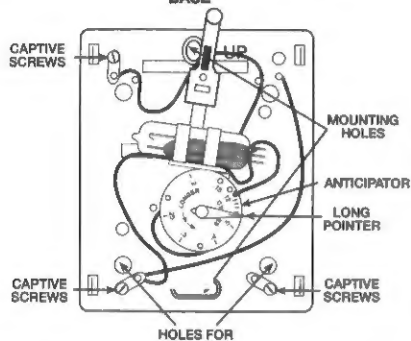

FIGURE 3
- ☐ Remove Front Cover of new thermostat by inserting a finger in the side of the thermostat and gently prying away each corner. Remove Base, Figure 2, from Sub-Base, Figure 3, by loosening three captive screws.
- ☐ Place Sub-Base, Figure 3, on wallplate over wall opening. Mark wall with pencil at mounting holes as shown in Figure 2. Now lay wallplate and Sub-Base to the side.
- Place Base, Figure 3, over Sub-Base and attach by tightening three captive screws.